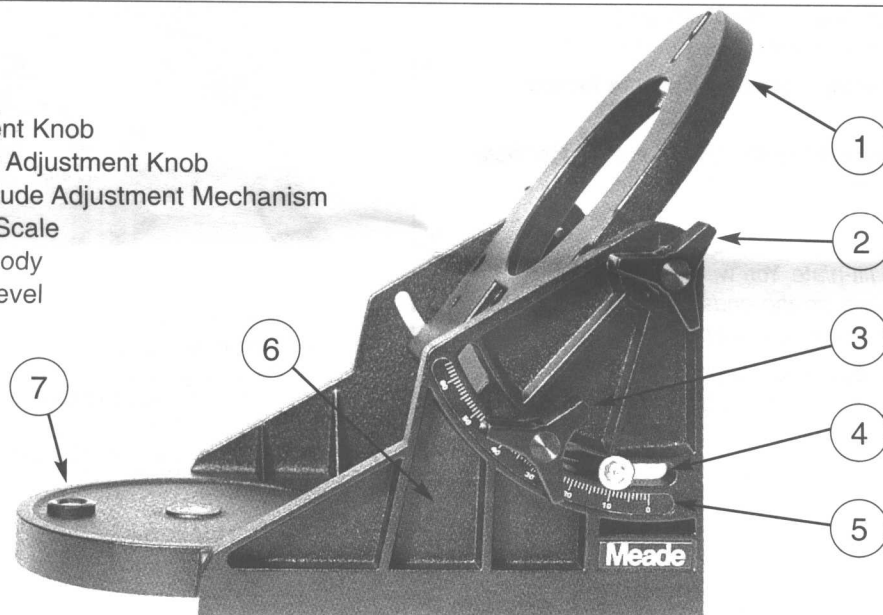

Fig. 1: Equatorial Wedge
1. The wedge consists of two basic parts: the wedge body and the tilt-plate, as shown in Fig. 1. Attach the tilt-plate to the wedge body by threading in the four knobs provided. Two knobs, with washers, should be used on each side of the wedge body so that a total of 4 knobs attach the tilt plate to the wedge body.
1. Slightly loosen the knobs (5, Fig. 1), on each side of the wedge.
2. Place the LX90 telescope on its side on the floor or a sturdy surface. Note the three recessed slots on the bottom of the telescope and the three protrusions (6, Fig. 1) on top of the adapter plate.
3. Insert the Allen screw (2, Fig. 1) through the center hole of the adapter plate. Line up the three protrusions (6, Fig. 1) on the adapter plate with the three recessed slots on the bottom of the telescope and begin to thread the Allen screw into the center hole of the telescope.
5. Note that the adapter plate has two tabs protruding from its sides (5, Fig. 1), each with a threaded hole next to it. Also note a third threaded hole which is not next to a tab. Screw in one of the attachment knobs (4, Fig. 1) into this hole three complete turns.
6. Slide this attachment knob into the slot (3, Fig. 1) at the top of the equatorial wedge tilt-plate, so that it hooks the telescope onto the wedge.
7. The two remaining threaded holes will line up with matching holes in the tilt-plate. Insert the two remaining attachment knobs (4, Fig. 1) through these holes and tighten all three knobs to a firm feel.
Figure 1: Item 1: Adapter plate; Item 2: Allen screw; Item 3: Wedge slot; Item 4: Attachment knobs; Item 5: Tabs; Item 6: Protrusions on adapter plate; Item 7: Equatorial wedge.